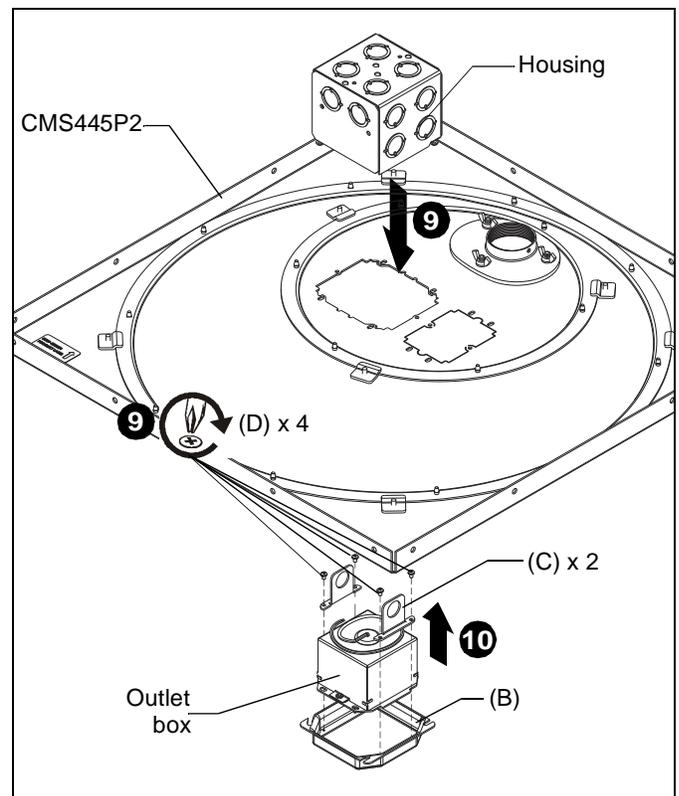

Figure 11
- Lower outlet box into the mud ring (B) and attach two screw spacers (C) inside the mud ring on either side of outlet box using four 06-32 x 1/4" Phillips pan head screws (D). (See Figure 11)
- Lower housing from above CMS445P2, install outlet box assembly up into housing, and rotate clockwise into place. (See Figure 11) and (See Figure )